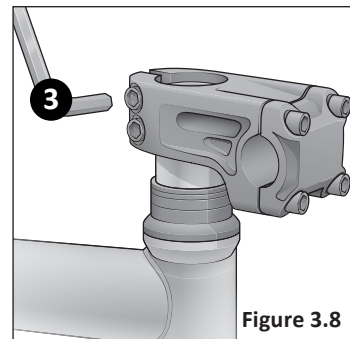

Figure 3.8
- 3 While holding the fork assembly in place, use a 6 mm Allen wrench and loosen the stem pinch bolts. Slide the stem down onto the steerer tube. **Figure 3.8**